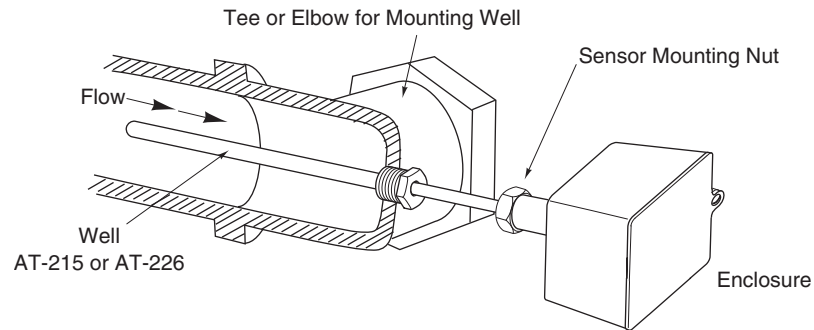

Figure-2 TS-6721-850 Immersion Mounting.
1. Thread the sensor into AT-215 bulb well that has been installed in a liquid line or tank (Figure-2).